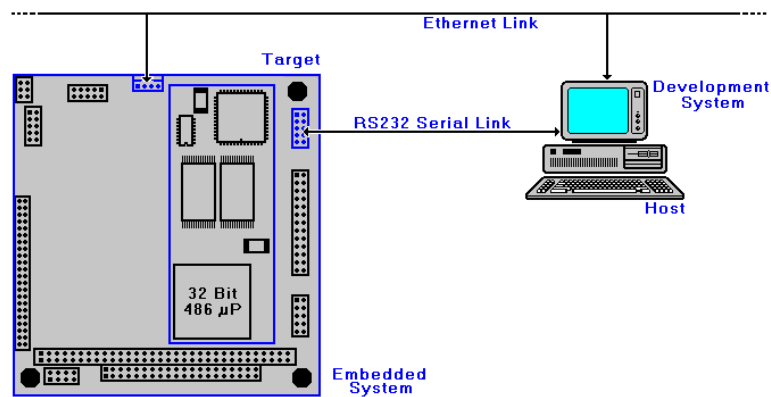

Figure 3: Overview about the required cable Connections
Figure 3 shows the cable connections between the personal computer as development system (**Host**) and the DIL/NetPC Starterkit (embedded system) as target. The cable connections (**COM-I/F cable, Null-Modem cable**) for the RS232 Serial Link normally come along with your Starterkit. For the Ethernet Link you will find a so-called **10BASE-T-I/F cable** in the delivery volume. Here an extra 10BASE-T patch cable or a 10BASE-T cross over cable is necessary. Such a cable is not included in the delivery volume of the Starterkit.
- Figure 3: Overview about the required cable Connections